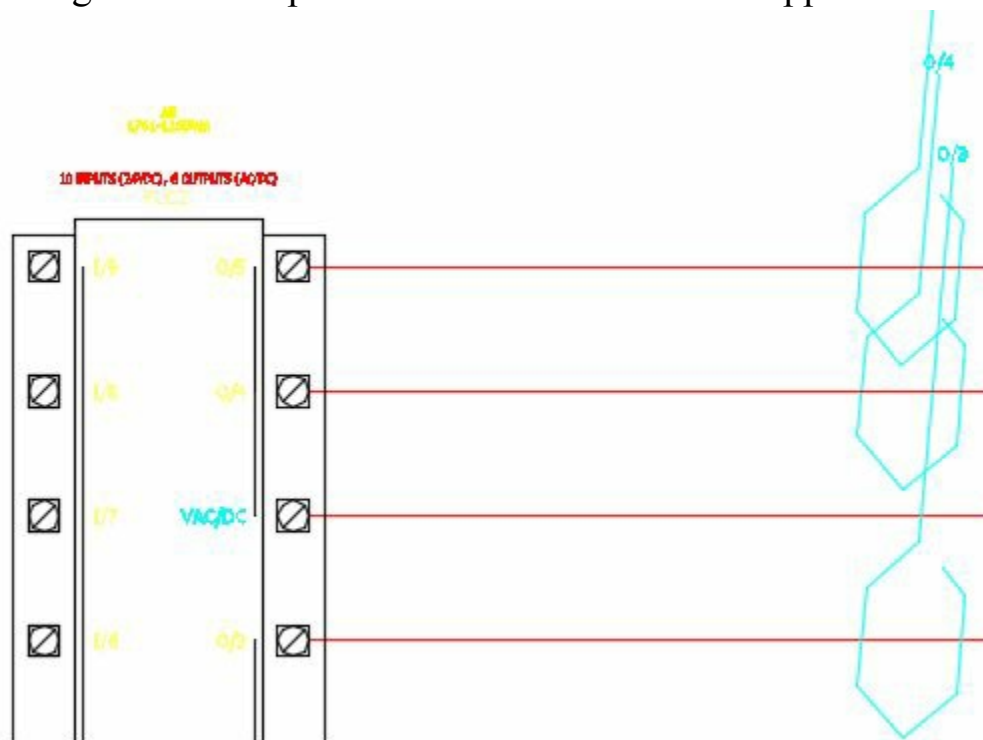

Figure-30. PLC I O Wire Numbers
- The tags defined as per the PLC are extracted and applied to the wires; refer to Figure-30.